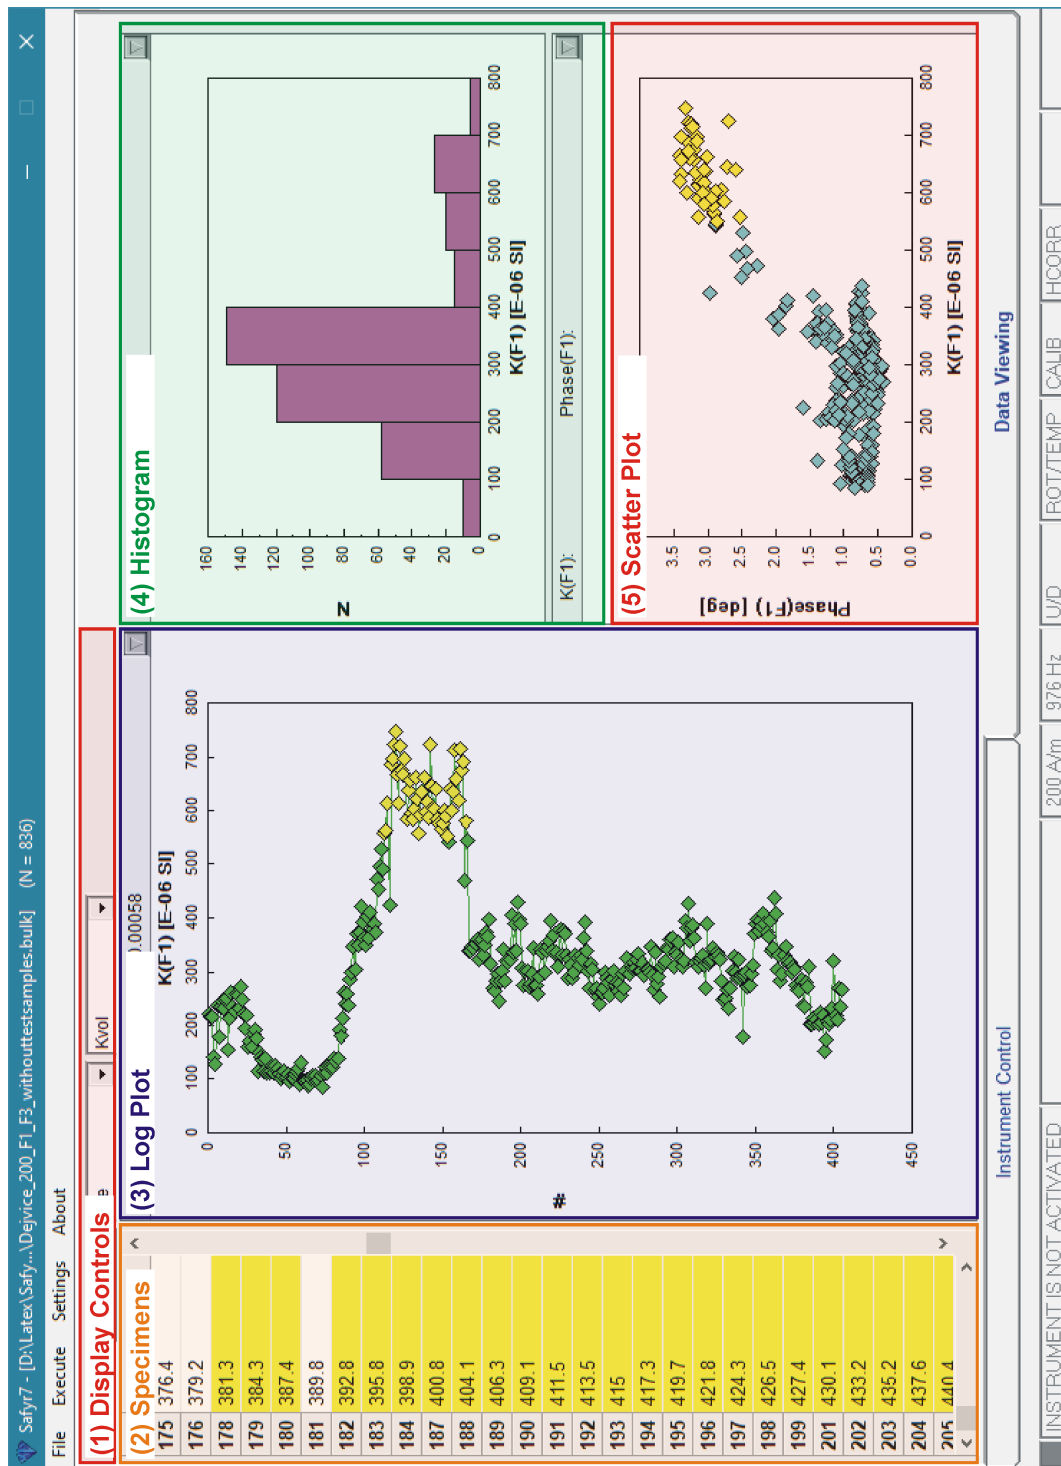

Figure 31: Data Viewing tab-panel displaying graphical outputs of Specimen Records; color-coded frames highlight its main parts.
The user interface contains the following parts (Figure 31):
- (a) **Graphics** **Table** **option buttons** – Switch between graphical and tabular view of bulk susceptibility data (see Figures 31 and 32, respectively).